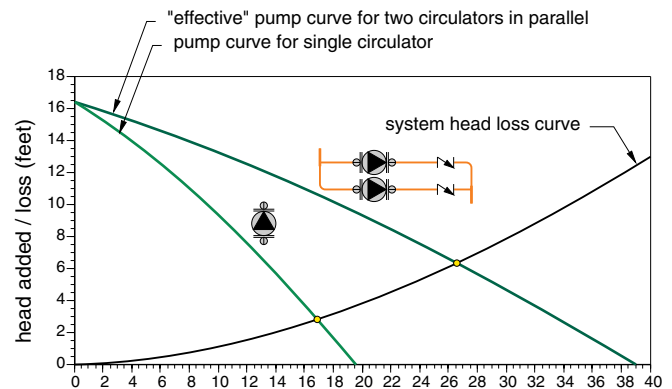

Figure 3
3. In systems having a high flow rate and low head loss requirements consider using two smaller circulators in parallel rather than a single larger circulator. The "effective" pump curve for two identical circulators in parallel is found by doubling the flow rate at every value of head. In effect the pump curve of a single circulator is "stretched out" to twice its length along the horizontal axis as shown in Figure 3.